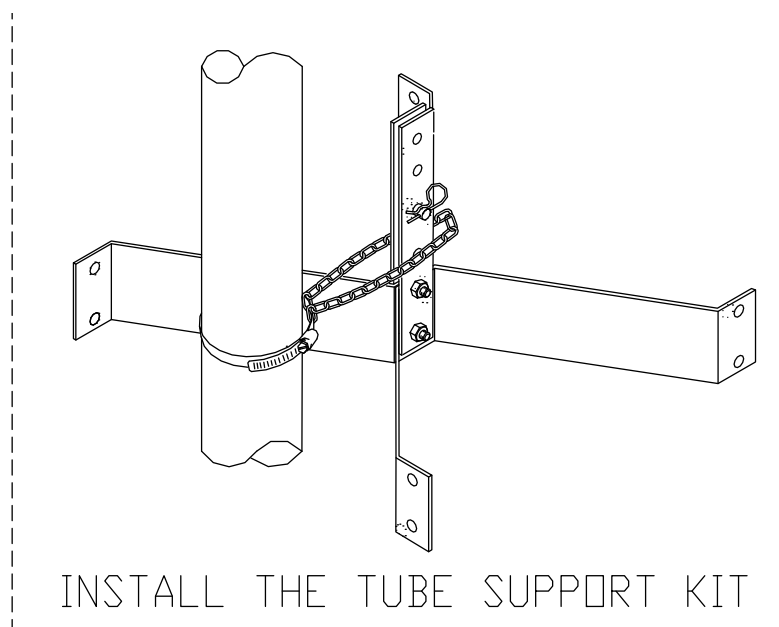

Figure 40.
5. Install the tube support kit as shown in **Figure 40**. The drop tube is supplied with the fill system.